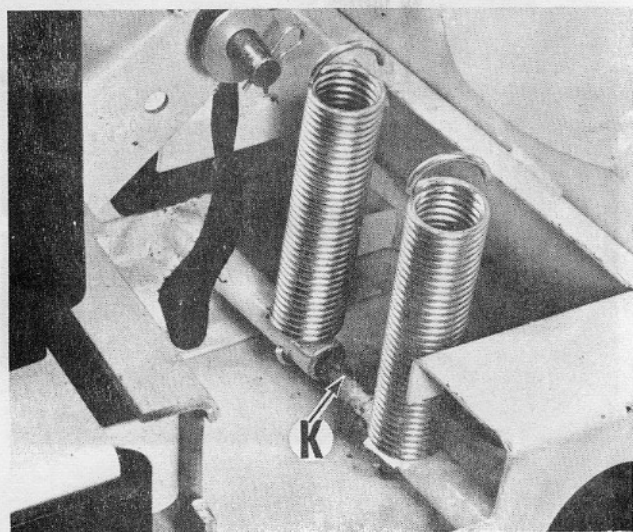

Fig. 13
Attach the lift tape to the Snow Thrower header at (K) and secure mounting pin. Make certain that lift tape has been threaded properly - see illustration (Fig. 13).